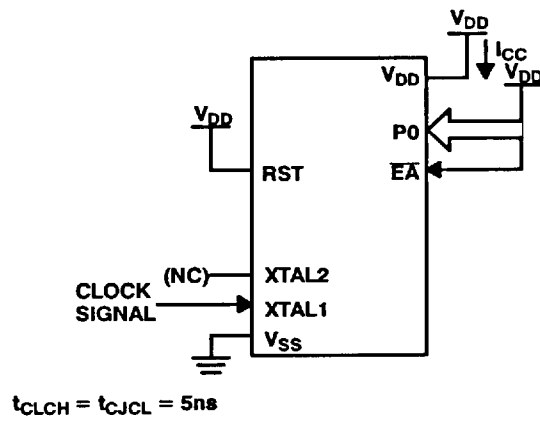

Figure 4. I_{DD} Test Condition, Active Mode
2. See figures 4, 5, and 6 for test conditions.